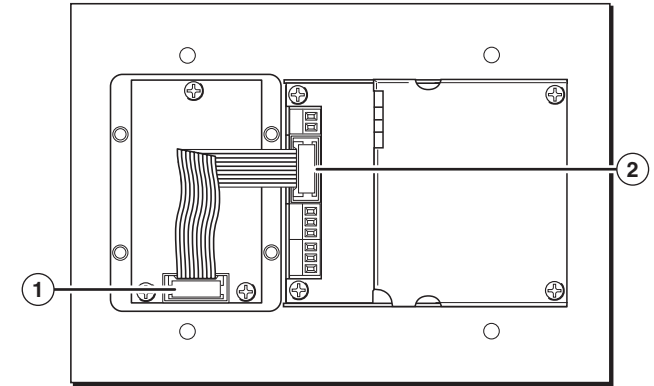

Figure 2-20 — MKP 3000 MAAP rear panel with MKP 10 MAAP mounted
2. See figure 2-20. If you have not already done so, connect the serial control and power cables between the J1 connector (①) on the MKP 10 MAAP and the Remote Keypad port (②) on the rear of the MKP 3000 MAAP.